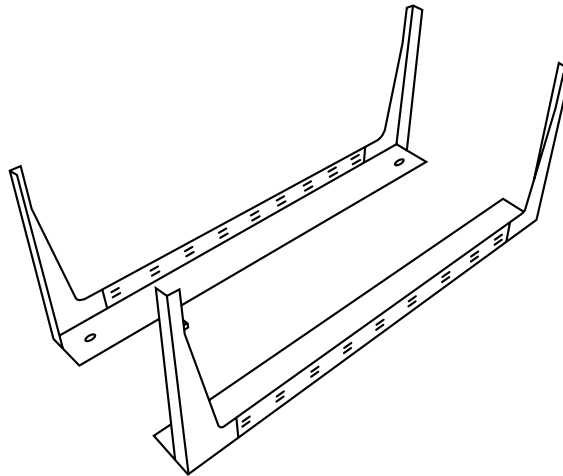
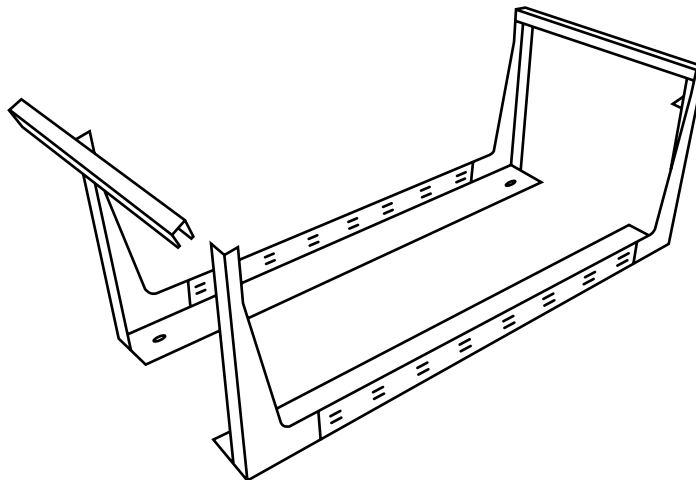

Figure 3-1. Laying out the fixed frame members.
Figure 3-2. Attaching the moldings.
1. Lay the vertical fixed frame members on the ground, parallel to each other (see **Figure 3-1** below). Leave enough space between them for the moldings you'll be attaching in the next step (see **Figure 3-2** below).
2. Attach the side moldings by aligning their bolt holes with those on the vertical fixed frame members (see **Figure 3-2** below); the pin guides—the holes where the swing frame's release pins will go—should be facing each other. Place the eight included hex bolts—four per molding—in the bolt holes and tighten them.